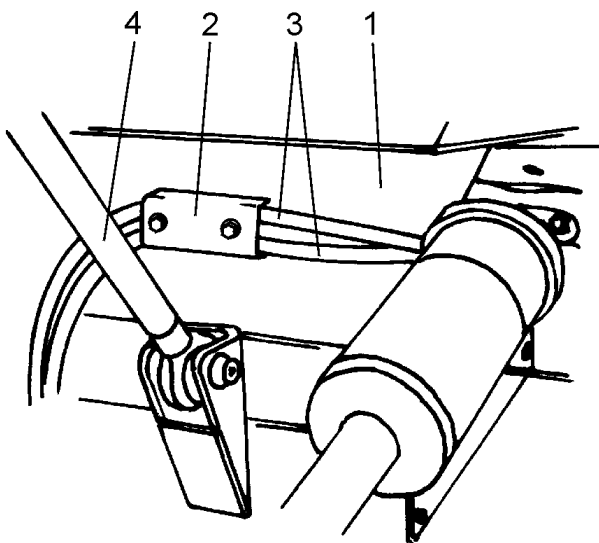

Fig. 17.2. Removing the Hose Guard
2. Disconnect the lift cylinders (4, Fig. 17.2) at the blade (1) by removing the pin locking hardware and drive out the mounting pin. Hydraulically retract the rods and secure the cylinders to the radiator guard with the cylinder hangers.
4. Remove the hose guard (2, Fig. 17.2) on the rear of the blade (1) to free the tilt hoses (3).
2. Disconnect the lift cylinders (4, Fig. 17.2) at the blade (1) by removing the pin locking hardware and drive out the mounting pin. Hydraulically retract the rods and secure the cylinders to the radiator guard with the strength wires.
4. Secure the tilt hoses(3, Fig. 17.2) to the rear of the blade with the hose guard (2).
6. Disconnect the lift cylinder hangers from the radiator guard and hydraulically extend the cylinder rods until the eyes line up with brackets on the rear of the blade. Insert the lift cylinder mounting pins through the bracket, aligning the lock hole in the pins with the lock holes brackets. Secure the pins with the locking hardware (Fig. 17.2).
2. Disconnect the lift cylinder hangers from the radiator guard and hydraulically extend the cylinder rods until the eyes line up with the brackets on the rear of the blade. Insert the mounting pins through the brackets, aligning the lock hole in the pins with the lock holes in the bracket. Secure the pins with the locking hardware (Fig. 17.2).